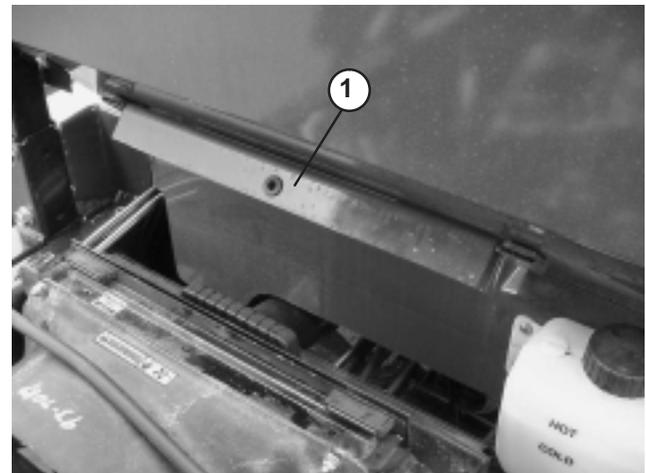

Figure 36
2. Remove bed support from storage brackets on back of ROPS panel (Fig. 36).